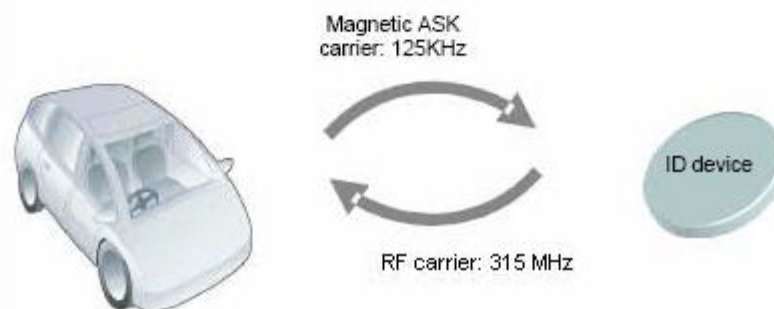

Figure 1: System description
1.4.1. I-Key Passive entry function (figure 1)